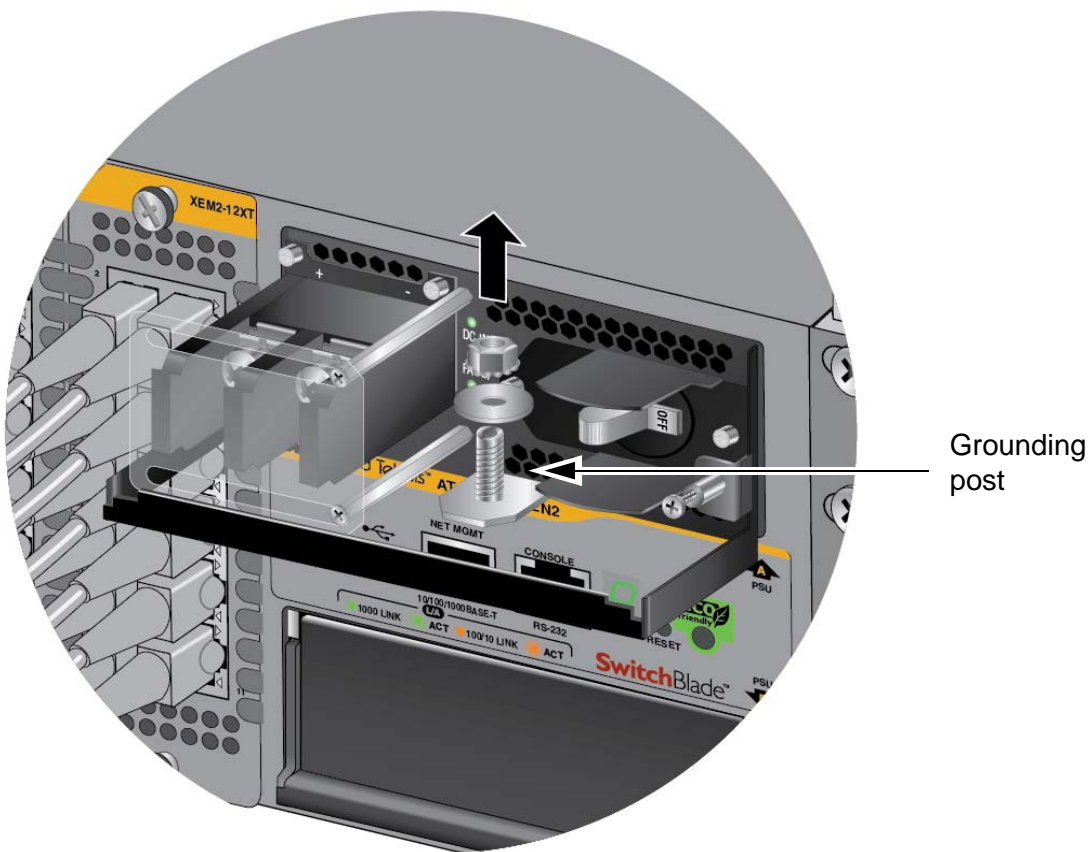

Figure 61. Removing the Nut and Washer from the Grounding Post
4. Use an 8 mm wrench to remove the grounding post nut and washer, shown in Figure 61 on page 98, from the power supply.
3. Use an 8 mm wrench to remove the grounding post nut and washer, shown in Figure 61 on page 98, from the grounding post on the power supply.